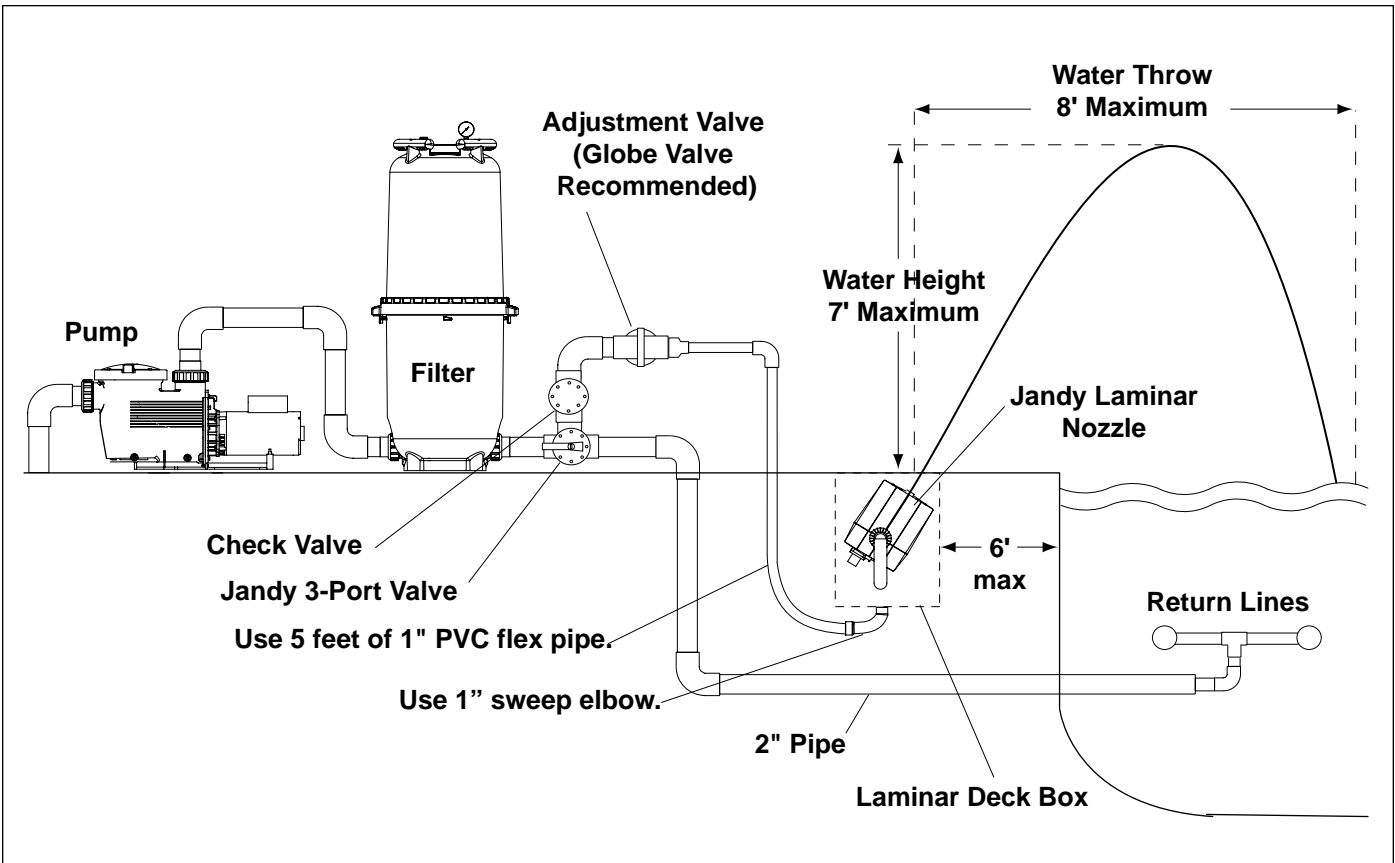
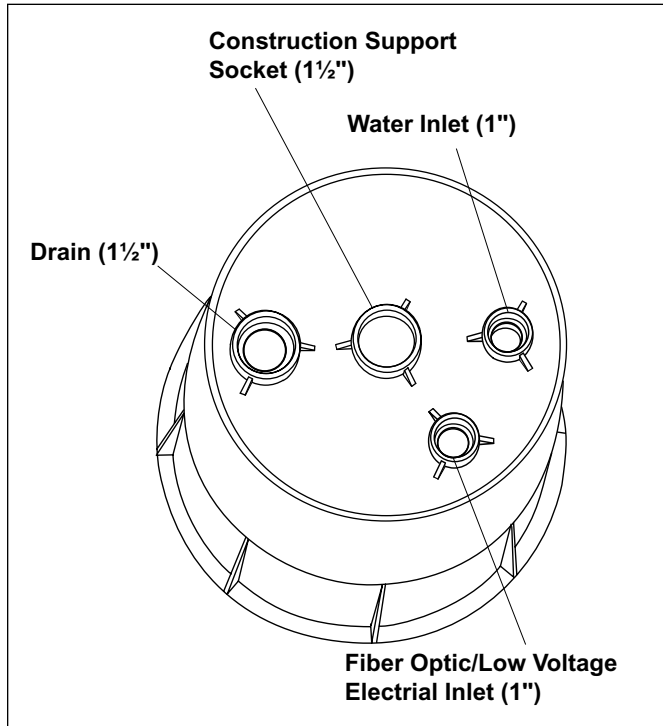

Figure 1. Basic Plumbing Diagram for Laminar Jet with Deck Box
Figure 5. Deck Box - Bottom View
Each Laminar Jet requires a 1½" to 2" PVC main feed line with 1" PVC entering the Deck Box. An adjustment valve and a check valve are also required. Valves should be placed as far from the Deck Box as possible to minimize water turbulence (refer to Figures 1 and 2 and Table 1).
NOTE To ensure that the box stays upright while installing **and** leveling the unit, place a six inch (6") length of one and one half inch ($1\frac{1}{2}$ ") PVC pipe in the construction support socket located on the bottom of the box (see Figure 5).
- Plumb the incoming, filtered water supply to the one inch (1") hub located on the bottom of the Deck Box marked **Inlet** (see Figure 5). The filtered water supply must include an adjustment valve and check valve (see Figures 1 and 2).
- Plumb the conduit for the fiber optic cable to the one inch (1") hub located on the bottom of the Deck Box marked **Fiber Optic/Low Voltage Electrical** (see Figure 5). Refer to Section 3 for fiber optic installation.
NOTE To ensure that the box stays upright while installing and leveling the unit, place a six inch (6") length of one and one half inch (1½") PVC pipe in the construction support socket located on the bottom of the box (see Figure 5).
4. Level the Deck Box. To hold the box in place, position a six inch (6") length of one and one half inch (1½") PVC pipe in the construction support socket located on the bottom of the box (see Figure 5). In include an adjustment valve and check valve (see Figures 1 and 2).
5. Plumb the incoming, filtered water supply to the one inch (1") hub located on the bottom of the Deck Box marked **Inlet** (see Figure 5). The filtered water supply must include an adjustment valve and check valve (see Figures 1 and 2).